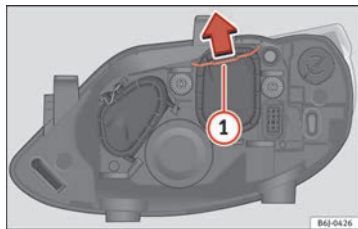

Fig. 166 Dipped beam headlights.
- Move the loop ⇒ Fig. 166 ① in the direction of the arrow and remove the cover.